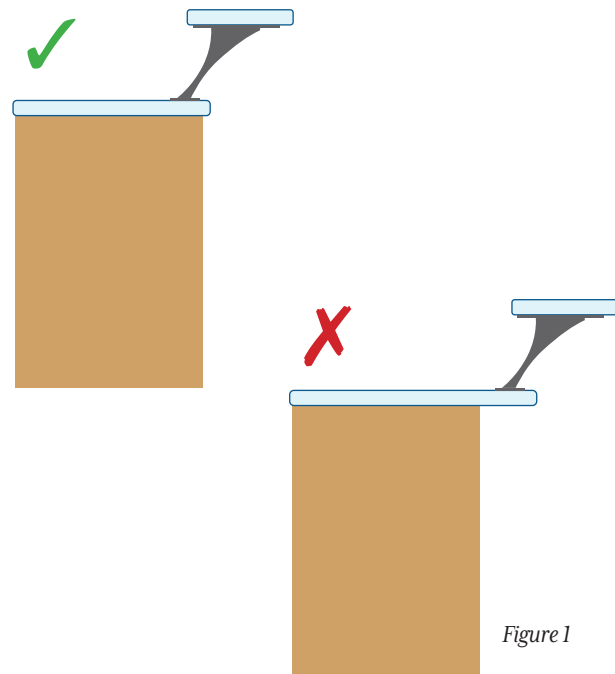

Figure 1
**1.** Measure & determine precise location for drill holes for each bracket. We recommend spacing brackets between 24" & 30" apart. The maximum span allowed between brackets is 30". Each bracket should be mounted on top of the primary support structure. **Do not attempt to mount brackets on overhangs,** (see Figure 1).